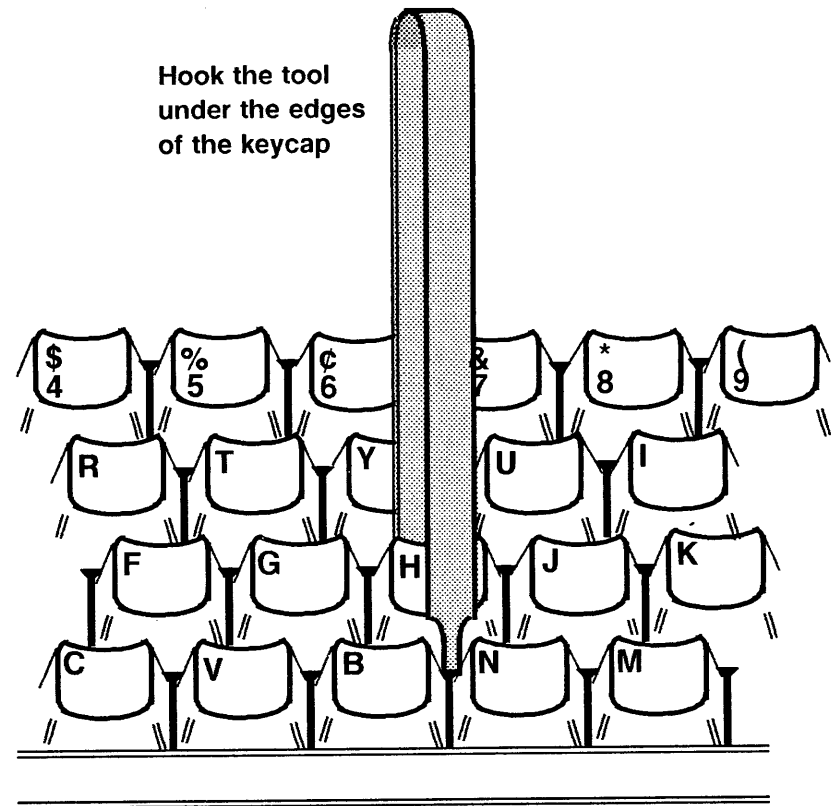

Figure 29. Keycap Removal
- b. Slide the Chip Removal Tool (600T80042) over the keycap and hook the tool under the edges of the cap (Figure 29). Squeeze the two legs of the tool together to hold the keycap firmly.